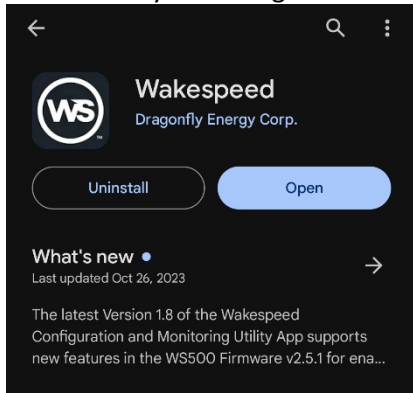

Figure 10
12. Open Wakespeed app on the android device. If it's not installed yet, install the Wakespeed app (see Figure 10) on the device by searching for it in the Google Play store and selecting install.